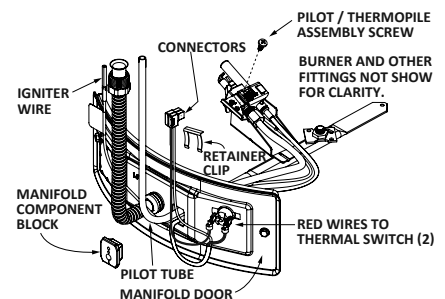

Figure 18.
3. Remove the screw securing the pilot/thermopile assembly to the pilot bracket and keep for reuse later (Figure 18.)
4. Lift the retainer clip straight up from the back of the manifold component block (using a flat-blade screwdriver), then remove the manifold component block from the manifold door. See Figure 18. **IMPORTANT:** Be careful not to bend or alter the position of the pilot tube. It will be used as a bending template for the new pilot assembly. Note the placement/order of the wires in the manifold component block.
2. Route the new pilot tube and wires through the opening in the manifold door. See Figure 18 on page 17.